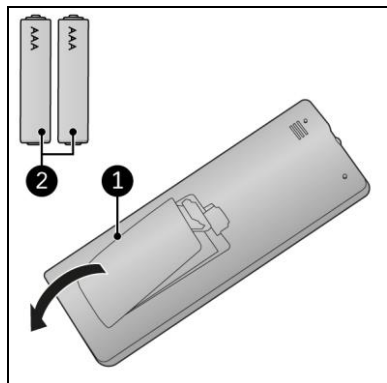

Figure 15
1. Remove the cover (Figure 15, pos. 1).
3. Insert two batteries (AAA 1.5 V) (Figure 15, pos. 2) as indicated in the battery compartment. Make sure to insert the batteries correctly.